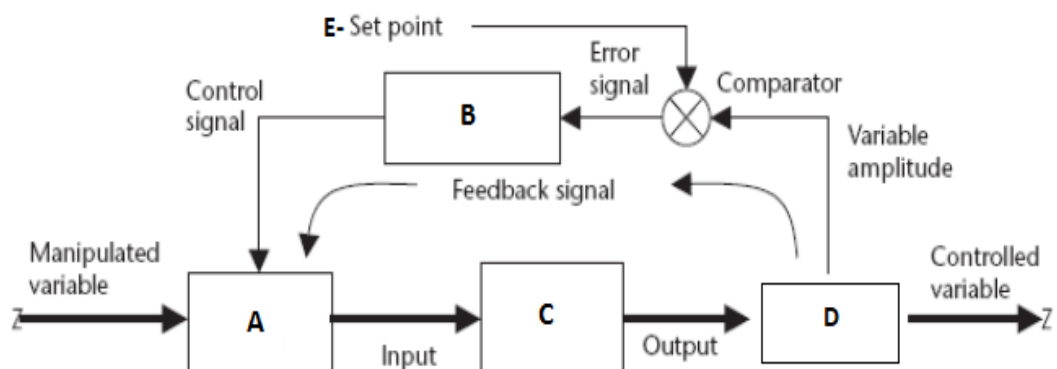

Figure 1(b)/ Rajah 1(b)
- (b) Figure 1 (b) shows a closed loop control system. Explain A, B, C and D elements of the system.